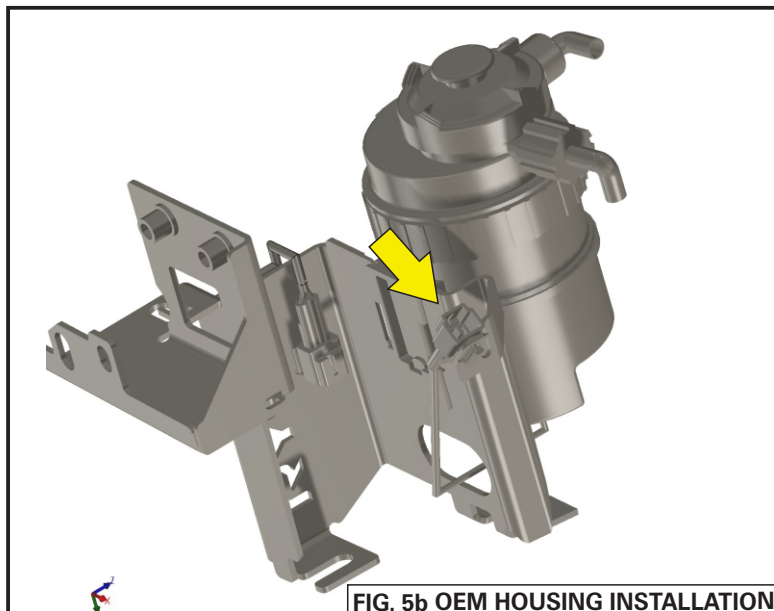

FIG. 5b OEM HOUSING INSTALLATION
12. Clip the female OEM Deutsch connect#1 on to the slot as shown in Fig.5b.